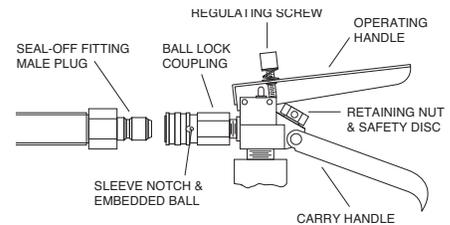

Figure 4
When using the CO₂ system, adjust the flow regulating screw on the "squeeze to operate" valve handle on the 5 lb. cylinder or on the 1105 valve and hose assembly. Regulate the flow to a moderate amount sufficient to keep the line carrier moving and the line flowing into the conduit. Develop a light touch and conserve CO₂ (Refer to Figure 4).
All CO₂ seal-offs are equipped with a male quick disconnect plug that plugs into the operating valve ball lock coupling on the 5 lb. CO₂ cylinder valve or the 1105 operating valve and hose assembly used with the 20 lb. and 50 lb. CO₂ cylinders (Refer to Figure 4).
1. Rotate the valve ball lock coupling sleeve to align notch with embedded ball (Refer to Figure 4).
The line package or seal-off requires no thread up for this operation. However, it is recommended that the seal-off be connected to the operating valve and a preliminary CO₂ flow adjustment be made by alternately operating the valve and adjusting the regulating screw. If more CO₂ flow is required, back out the regulating screw one or two more turns (Refer to Figure 4 and 5).